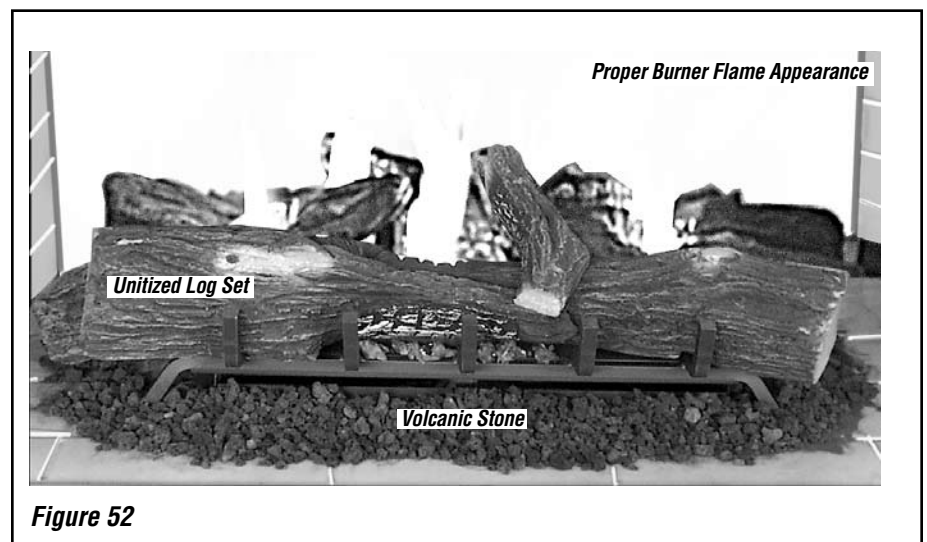

Figure 52
- As a final check for correct log set placement, check that the four outer notches on the underside of the log set fit over the burner times as indicated in **Figure 52**.
Burner / Grate Location Reference (see Figures 52 to 54)
Note: If the burners have been removed for any reason, rear burner must be installed before front burner. See Figures 52 to 54.